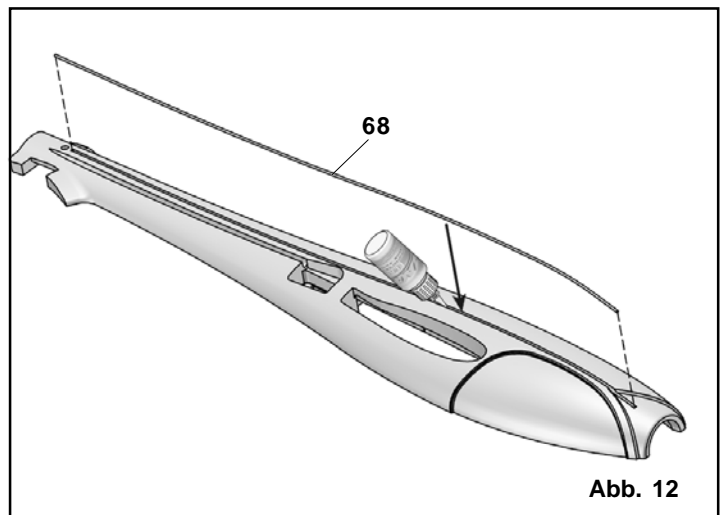

Abb. 12
3.4 Completing the “outside” of the left-hand fuselage shell, Fig. 12